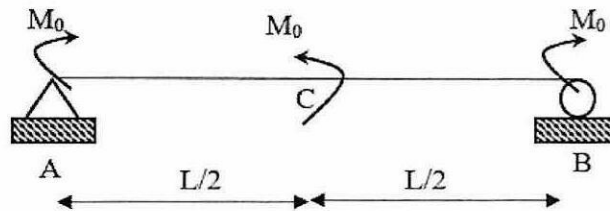

Figure Q2
**Q2** The cantilever beam which has length L is shown in **Figure Q2**. It is loaded with moment at point A, B and C;